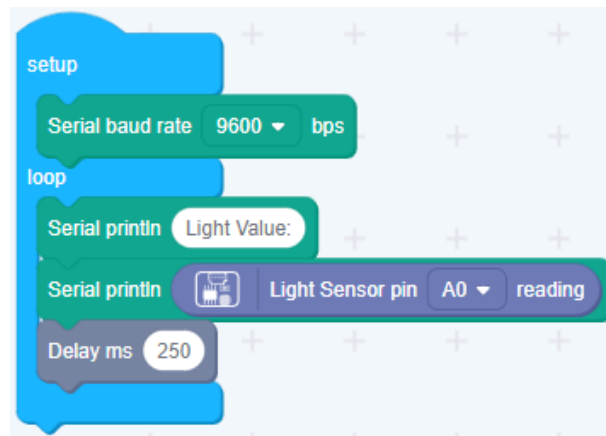

Figure 8.5: Codecraft Light Sensor Setup
23. Set up the Codecraft workspace as shown in Figure 8.5.